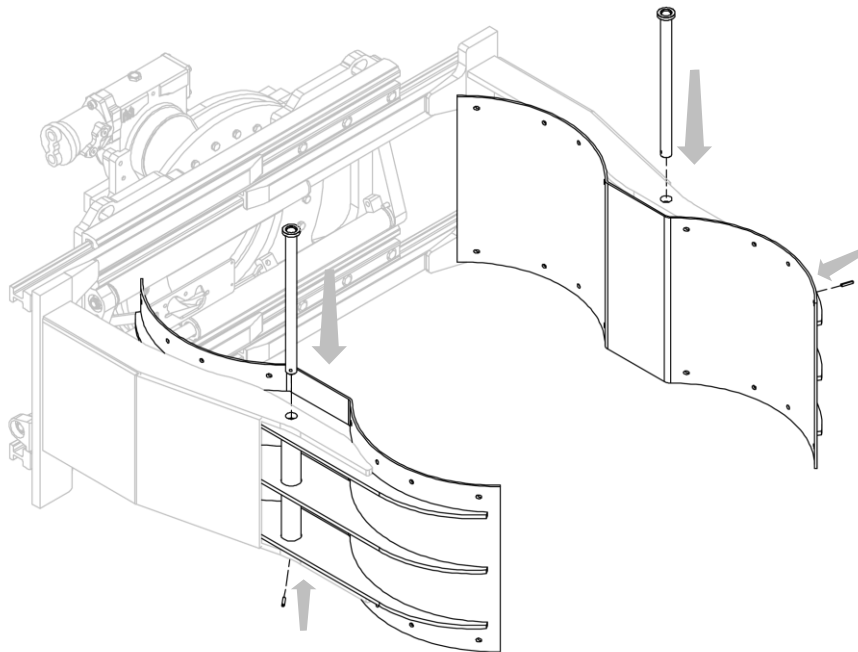
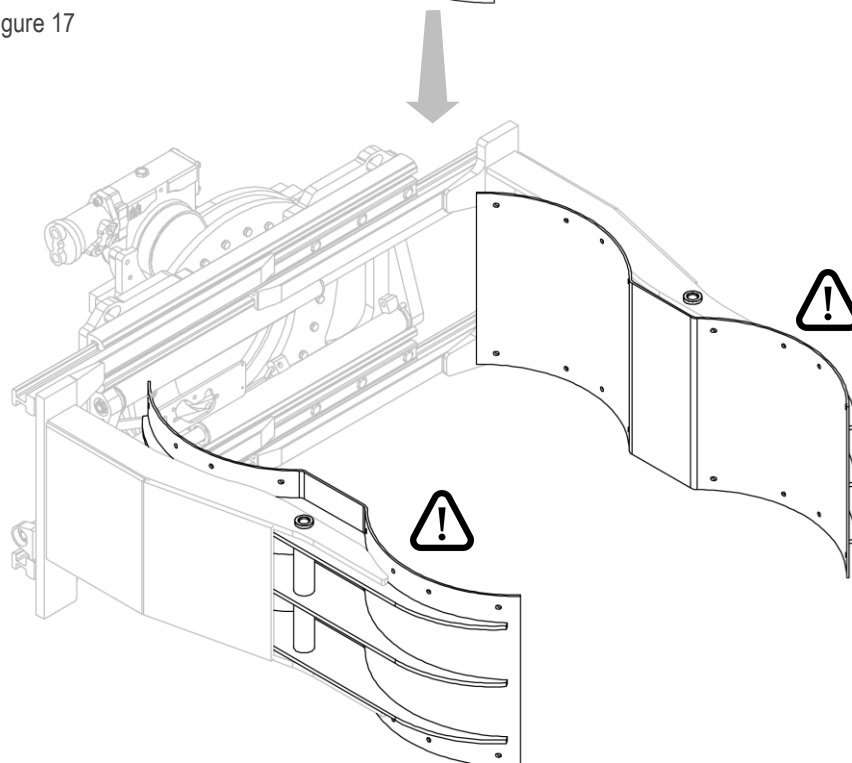

Figure 17
Figure 18
3. Assemble the jaws onto the forks, using the securing pins and spring pins (see *Figure 17* and *Figure 18*).